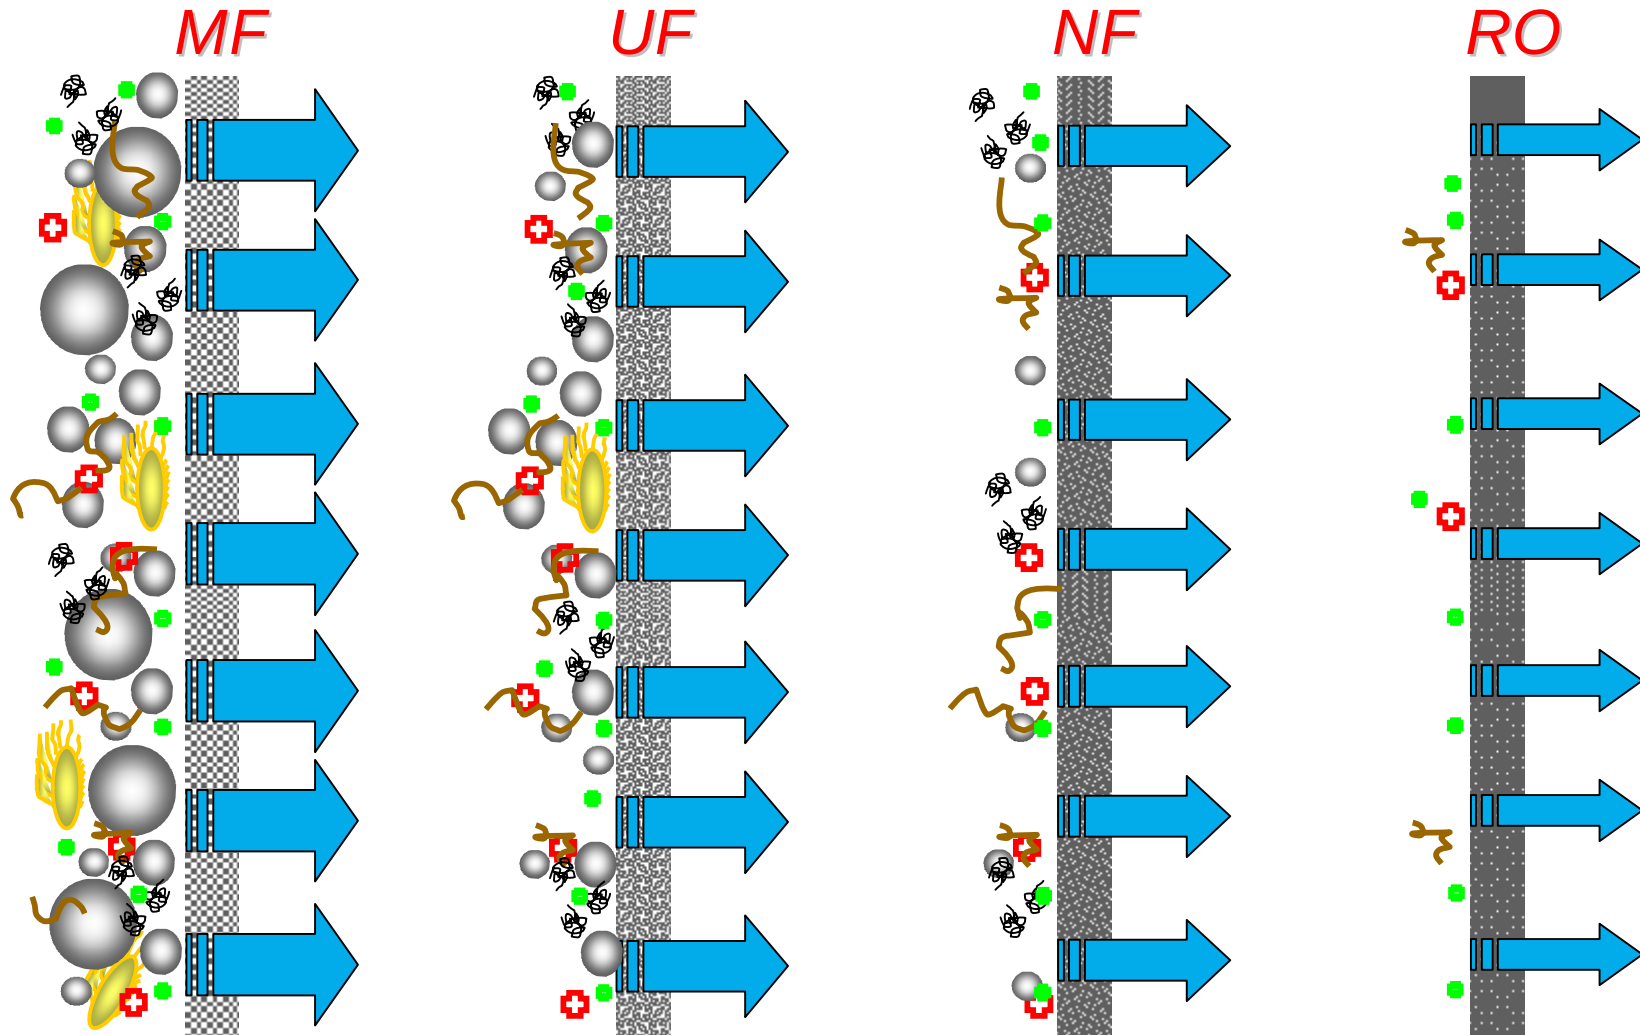

Fig. 4.15
- Damage of the membrane due to the reaction between chemicals in the feed water and the membrane. See Figure 4.15.